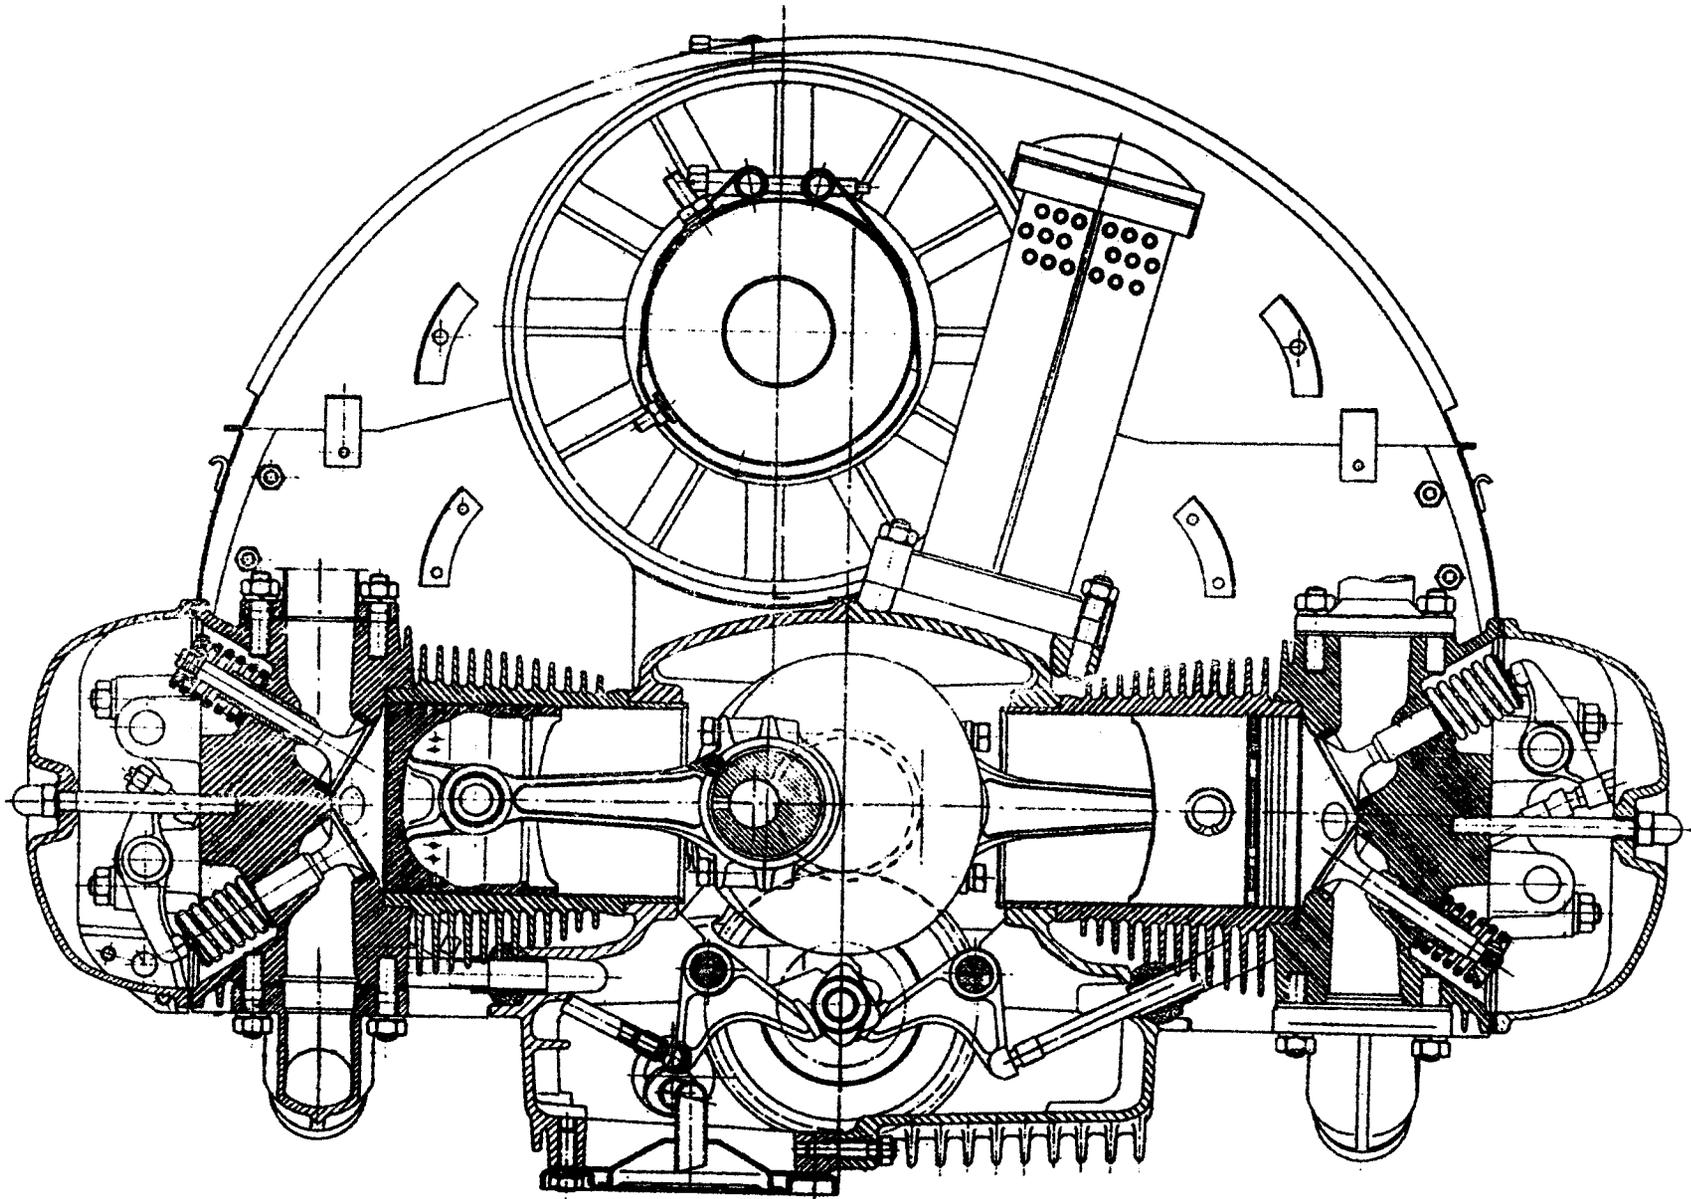

Fig. 2/I: Motor engine moteur
a) For burned valve stem. If necessary, regrind according to the description given under fig. 2 / II and fig. 2 / III the first number being the group number, the second the number of the illustration.
The measures for fig. 2 / II being: